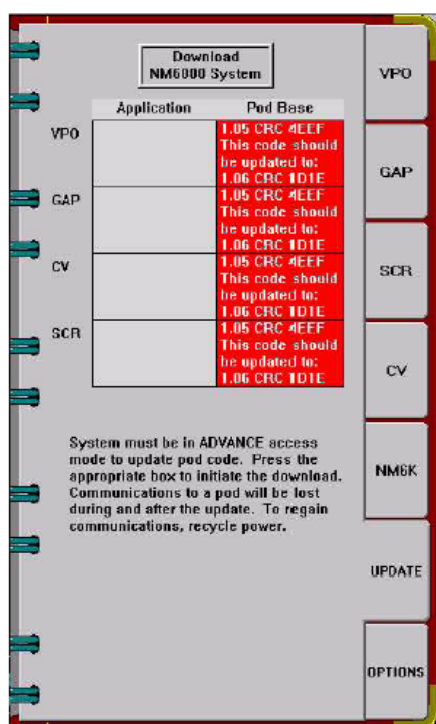

FIGURE 1-25. PBS Screen
- 1.50 When the key is pressed the notebook disappears. Press the Service Config key to refresh the Service Config notebook and to select additional pods for download, if required. After all downloads are completed, they will reset and reference the latest pod-based software versions. Then turn the System Power switch to Standby. See FIGURE 1-25.